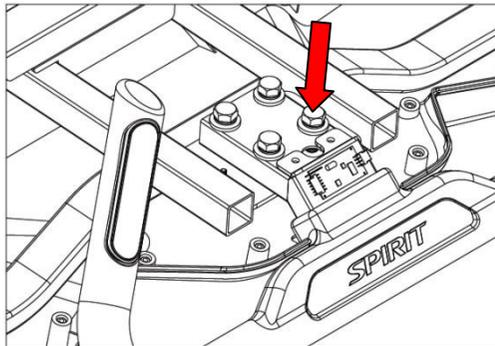

Figure 4.9.3
- 4) As shown in Figure 4.9.3, use a wrench to remove the four hexagonal screws. Replace the handheld group accordingly.**